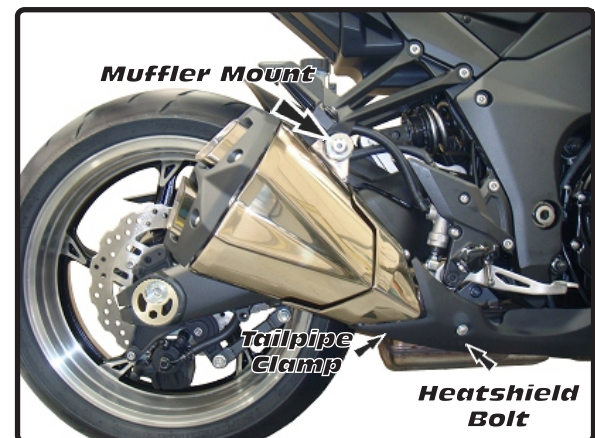

Fig. 2
- Remove right side muffler heatshield bolt and heatshield. (Fig. 2).
- Loosen right side tailpipe clamp (Fig. 2).
- Remove right side muffler hanger bolt (Fig. 2).